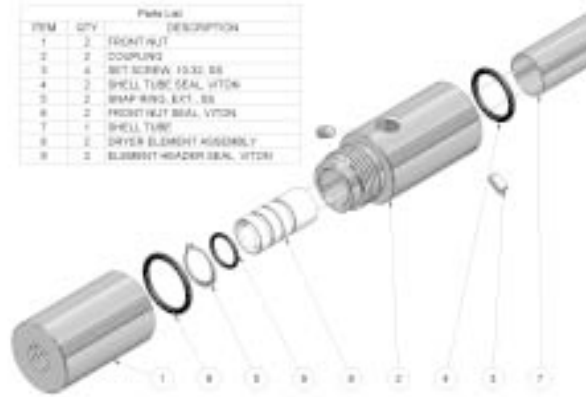

Figure 4
1. Hold coupling and shell with one hand, and remove front nut with other hand (Refer to Figure 4).
1. Hold coupling and shell with one hand, and remove front nut on each end with the other (Refer to Figure 4).